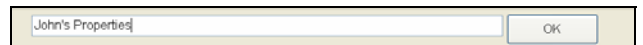

Figure 8.6.2
- Type the name in the box and click on the **OK** button (Figure 8.6.2).